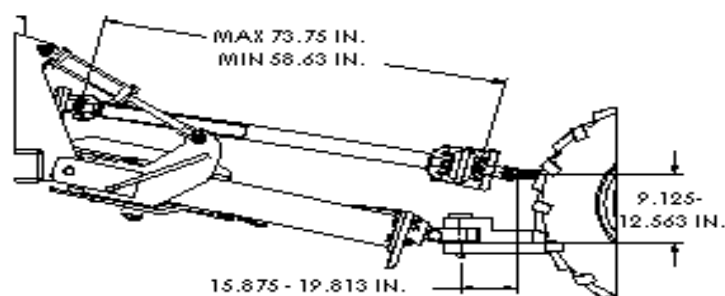

Figure 6: Drawbar Range
**4.1.1 Adjusting the Drawbar:** The tractor drawbar must be set within the given range to maintain the integrity of the drive system. The range is shown in Figure 6.